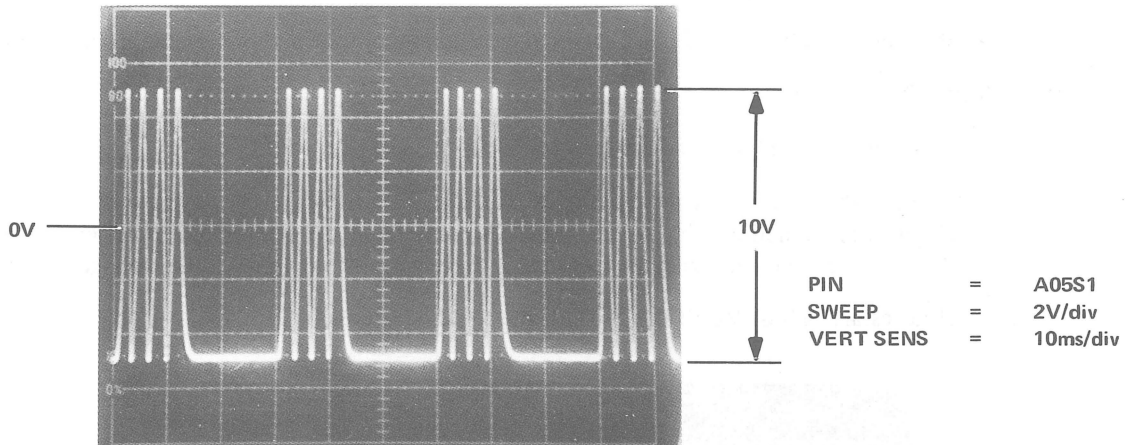

Figure 5-12 Cosine Amplitude/Offset Waveform
- Observe A05S1 (COS POSITION) for a scope display as illustrated in Figure 5-12. The waveform amplitude must be $10 \pm 1V$ p-p and symmetrical about ground.